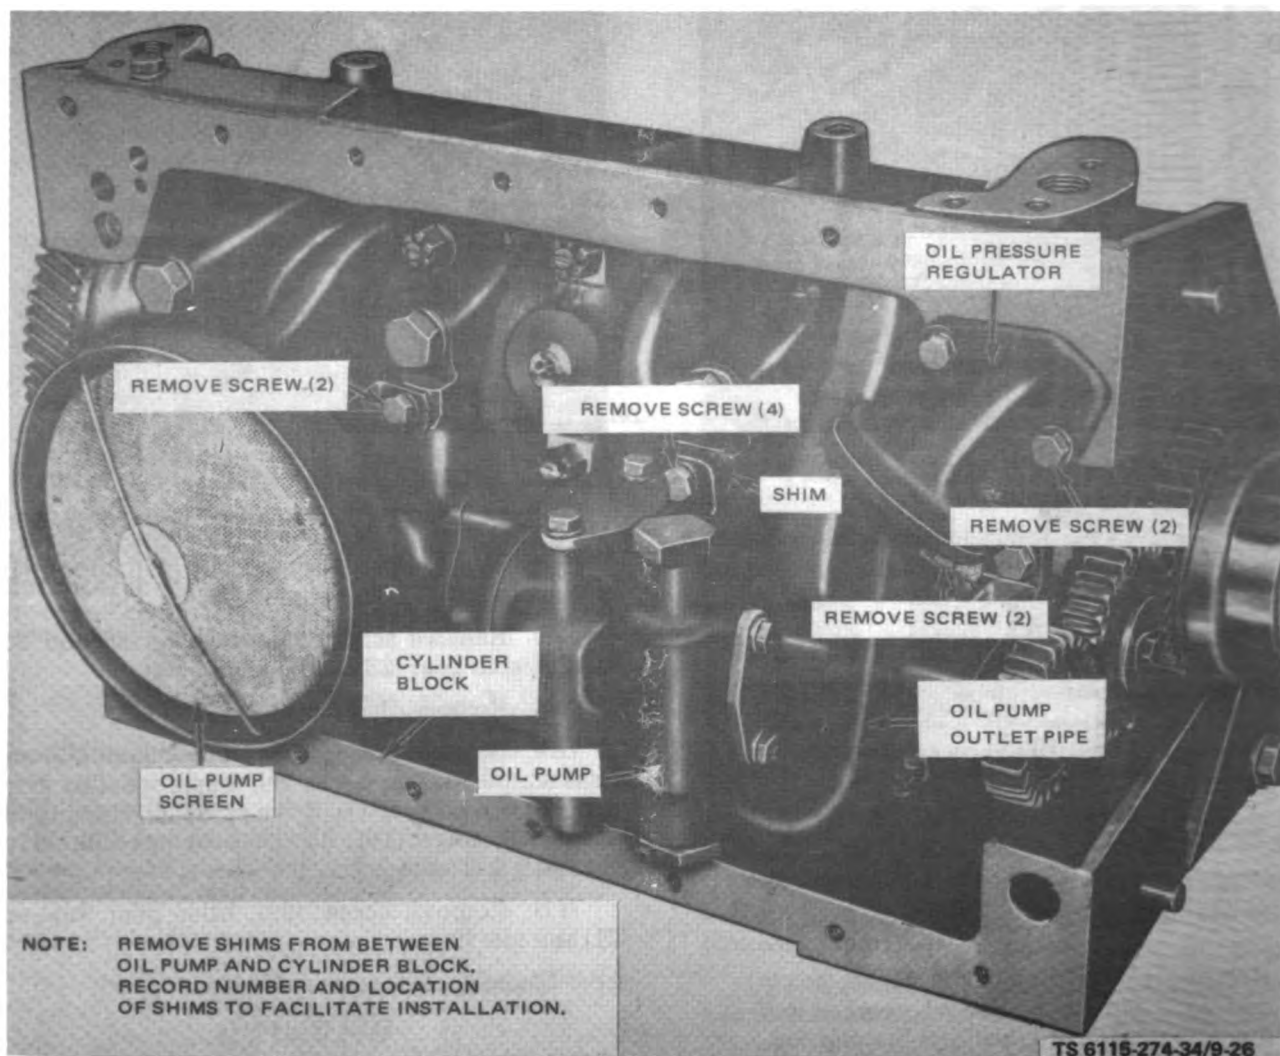

Figure 9-26. Oil Pump, Removal and Installation
- (16) Remove oil pan and gasket.
- (17) Remove screws attaching screen support bracket to cylinder block (fig. 9-26).
- (18) Remove screws attaching oil pressure regulator to cylinder block.
- (19) Remove four screws attaching oil pump to cylinder block. Remove assembly consisting of oil pump, outlet pipe and oil pressure regulator.
(1) Attach oil pressure regulator to oil pump outlet (fig. 9-26).
(2) Install oil pump, outlet pipe and oil pressure regulator assembly to block using shims and four screws.
(3) Attach oil pressure regulator to block.
(4) Attach screen support bracket to cylinder block.